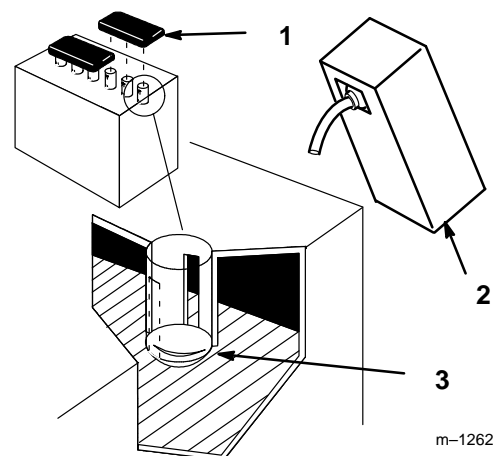

Figure 5
3. Remove filler caps from the battery. Slowly pour electrolyte into each cell until the electrolyte level is up to the lower part of the tube (Fig. 5).
6. Slowly pour electrolyte into each cell until the level is once again up to the lower part of the tube and install covers (Fig. 5).